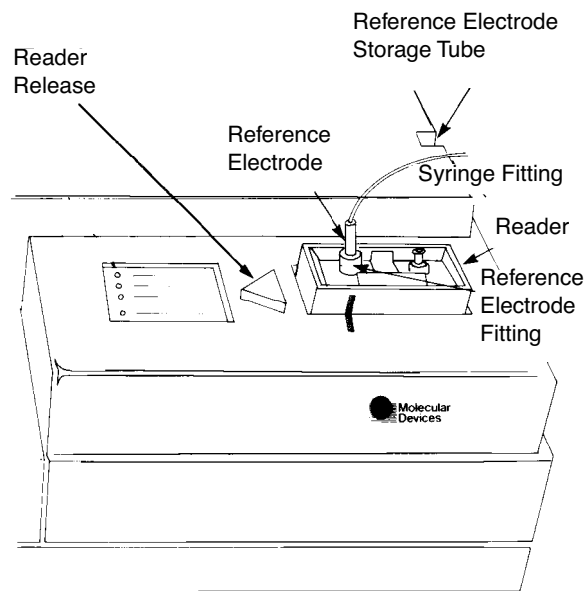

Figure 3-3: Reader Inserted in Workstation
- 2) Insert the Reader into the cavity in the right-hand corner of the Workstation (Figure 3-3). *The serial number and the two gold contacts must be facing you. The Reader openings must be up.*